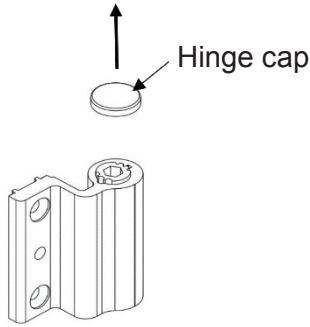
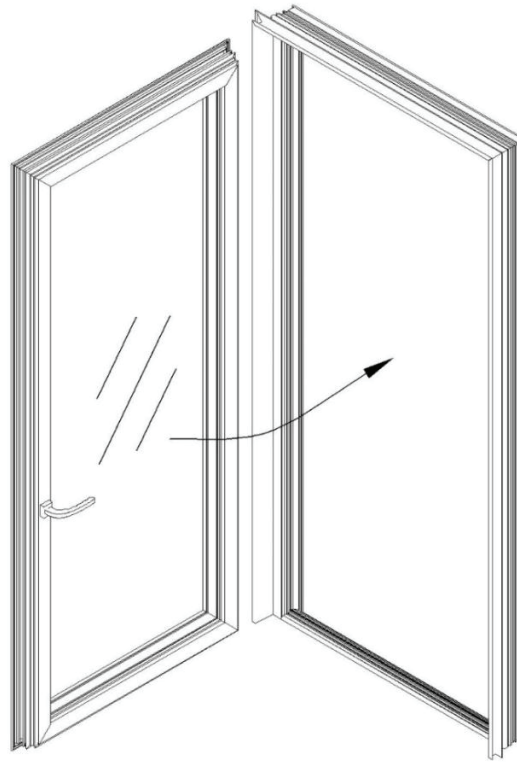

FIGURE 6A
FIGURE 6B
10. Remove hinge cap prior to sash installation (shown in figure 6a). Do not lose hinge caps as they will be needed to lock hinge adjustments later. After removing hinge caps install the sash into the door frame (shown in figure 6b).